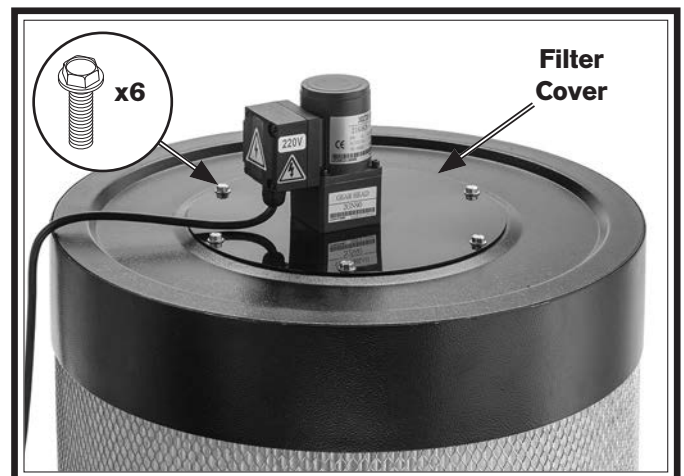

Figure 71. Filter cover.
8. Remove (6) flange bolts and filter cover assembly (see **Figure 71**).